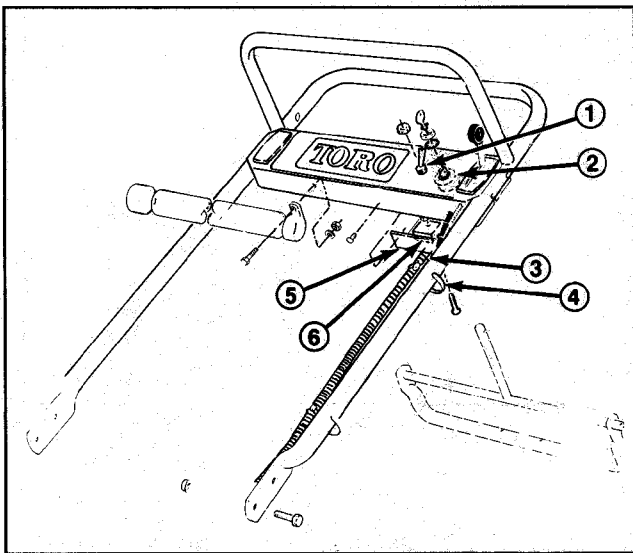

Figure 4
1. Remove nut securing clutch switch to control panel and remove switch (Fig. 4).
5. Mount ignition switch on control panel and secure with lockwasher and hex nut (Fig. 4).
6. Remove bottom panel and bridge rectifier from kit and secure bridge rectifier to bottom panel with machine screw and locknut (Fig. 4).
8. Using self tapping screws, mount bottom panel to control panel. Secure harness to handle with (2) cable ties (Fig. 4).